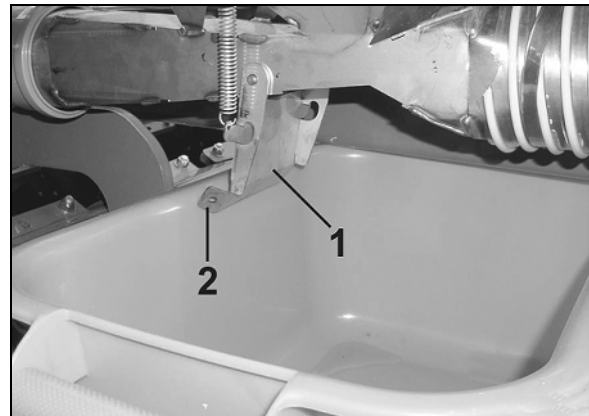

Fig. 75
4. Open the injector sluice flap (Fig. 75/1) on all metering units.
**Danger of squeezing when opening and closing the injector sluice flap (Fig. 75/1).**
**Only hold the injector sluice flap on its strap (Fig. 75/2). Danger of injury when the sprung loaded flap shuts (Fig. 75/1).**
**Never ever reach with your hand between the injector sluice flap (Fig. 75/1) and the injector sluice!**